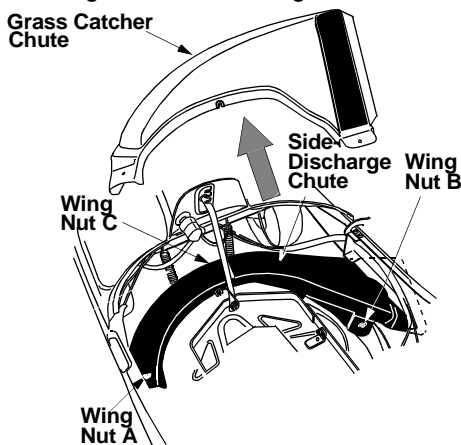

Figure 4
- Remove the two wing nuts (A and B in Figure 4) from two ends of the grasscatcher chute.
- Loosen the wing nut (C in Figure 4) in the middle of the chute. Do not remove.